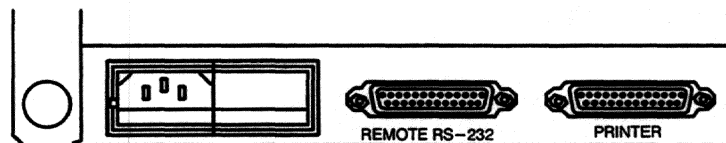

Figure 16-2 The printer connector is a 25-pin (DB-25) male connector.
A male RS-232/V.24 Printer connector is located on the rear of the INTERVIEW (see Figure 16-2). The Printer connector is a DCE interface: it transmits to the printer on Pin 3 (RD) and applies ON voltage (+12 V) on Pins 5 (CTS), 6 (DSR), and 8 (CD). Information can be transmitted asynchronously in 7- or 8-bit ASCII code, with selectable parity.